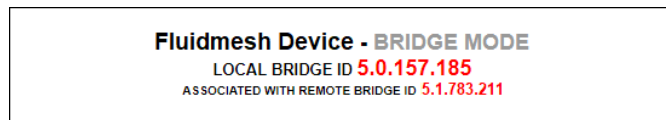

Figure 39. Configurator interface (Unit ID information)
- The unit ID number of the local unit is shown as the **LOCAL BRIDGE ID** (Figure 39 (page 102)).